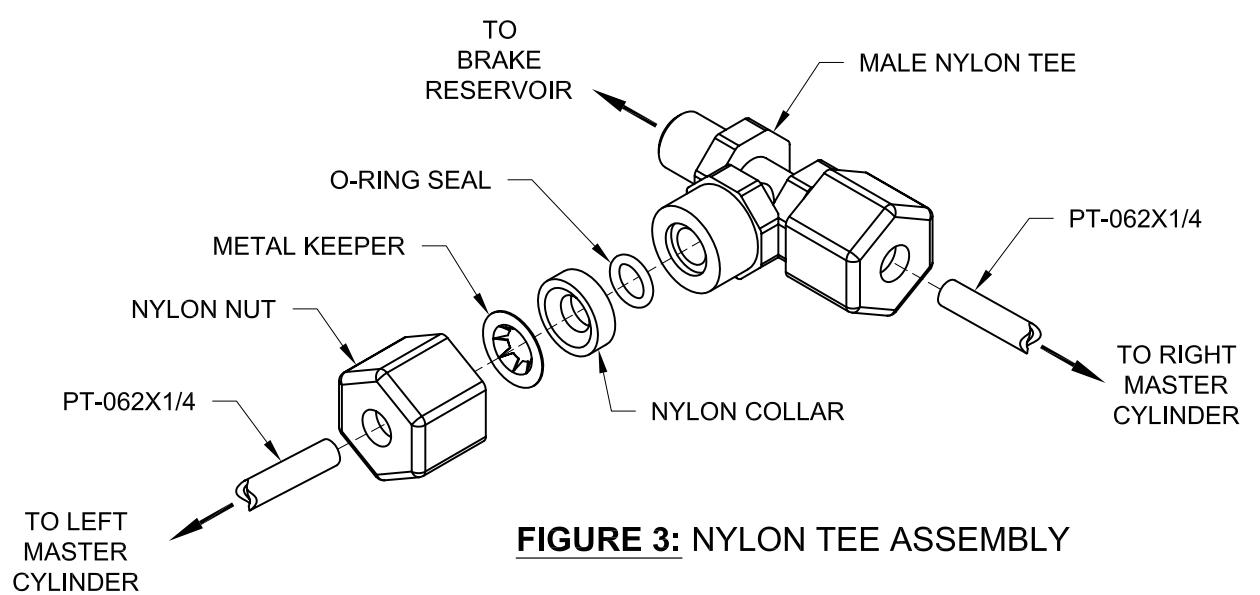

FIGURE 3: NYLON TEE ASSEMBLY
Step 3: Connect the brake lines created on Page 38-6 to the F 271-N-04X02 Male Nylon Tee as shown in Figure 2 and Figure 3.